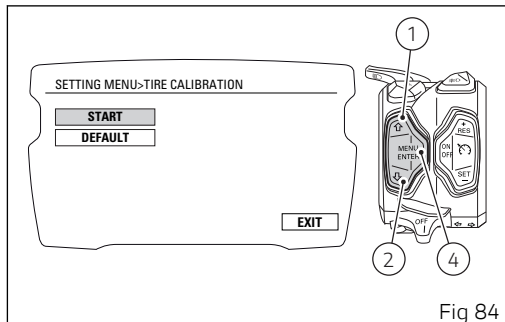

Fig 84
As you enter this function, the instrument panel displays the following indications (Fig 84):
To reset to the default settings, use buttons (1) and (2) to select "DEFAULT" (Fig 84) and press button (4). Then, the instrument panel shows "DEFAULT PLEASE WAIT..." (Fig 90) and after a while "DEFAULT OK" (Fig 91) for 2 seconds, then followed by the previous screen.